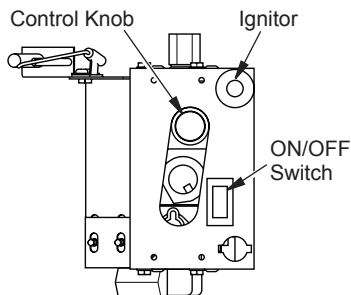

Figure 11 - Control Knob and Ignitor Button
4. Press in and turn control knob clockwise  to the OFF position (see Figure 11, page 11).
- Wait five (5) minutes to clear out any gas. Then smell for gas, including near the floor. If you smell gas, STOP! Follow "B" in the safety information, page 10. If you don't smell gas, go to the next step.
- Press in and turn control knob counter-clockwise ↶ to the PILOT position. Press in control knob for five (5) seconds (see Figure 11).